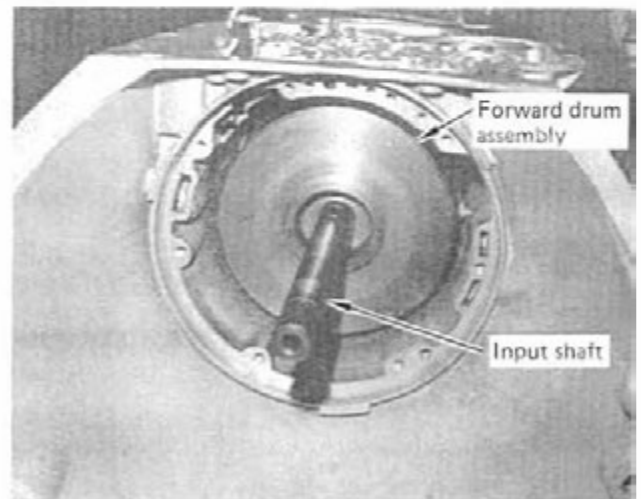

FIGURE 10
STEP 13. Grasp input shaft and remove input shaft/forward drum assembly. (See Fig. 10) Make sure you don't lose the thrust washer on the splined hub on the back of the drum assembly as it may stick to the direct clutch drum still in the case. Set the forward drum assembly aside.